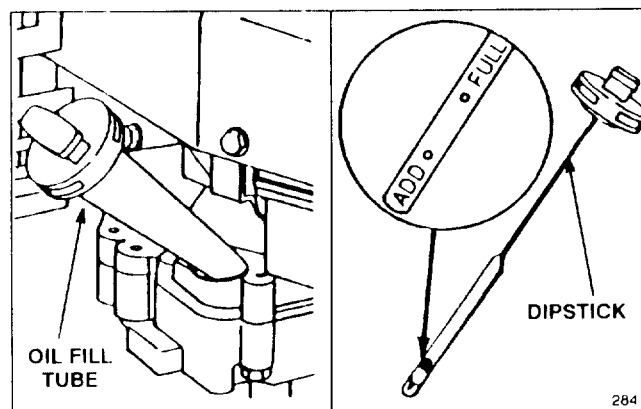

Figure 6
Fill crankcase with SAE 30 oil until oil level reaches FULL mark on dipstick as shown in Figure 6. The maximum crankcase capacity is 25 ounces (0.75 liters) of oil. Use of multi-viscosity oils (10W30, etc.) above 40° F (4°C) will result in high oil consumption and possible engine damage. Use any high quality detergent oil having the American Petroleum Institute (API) "service classification"—SE, SF or SG.
Before each use, ensure oil level is between ADD and FULL marks on dipstick (Fig. 6). Add oil if level is low.
3. Wipe dipstick and insert it into filler neck. Rotate cap clockwise 1/4 turn. Then remove dipstick and check level of oil (Fig. 6). If level is low, add only enough oil to raise level to FULL mark on dipstick. **DO NOT FILL ABOVE FULL MARK BECAUSE EN-**
1. **CHECK OIL LEVEL**—Maintain oil level between ADD and FULL marks as shown on dipstick (Fig. 6).